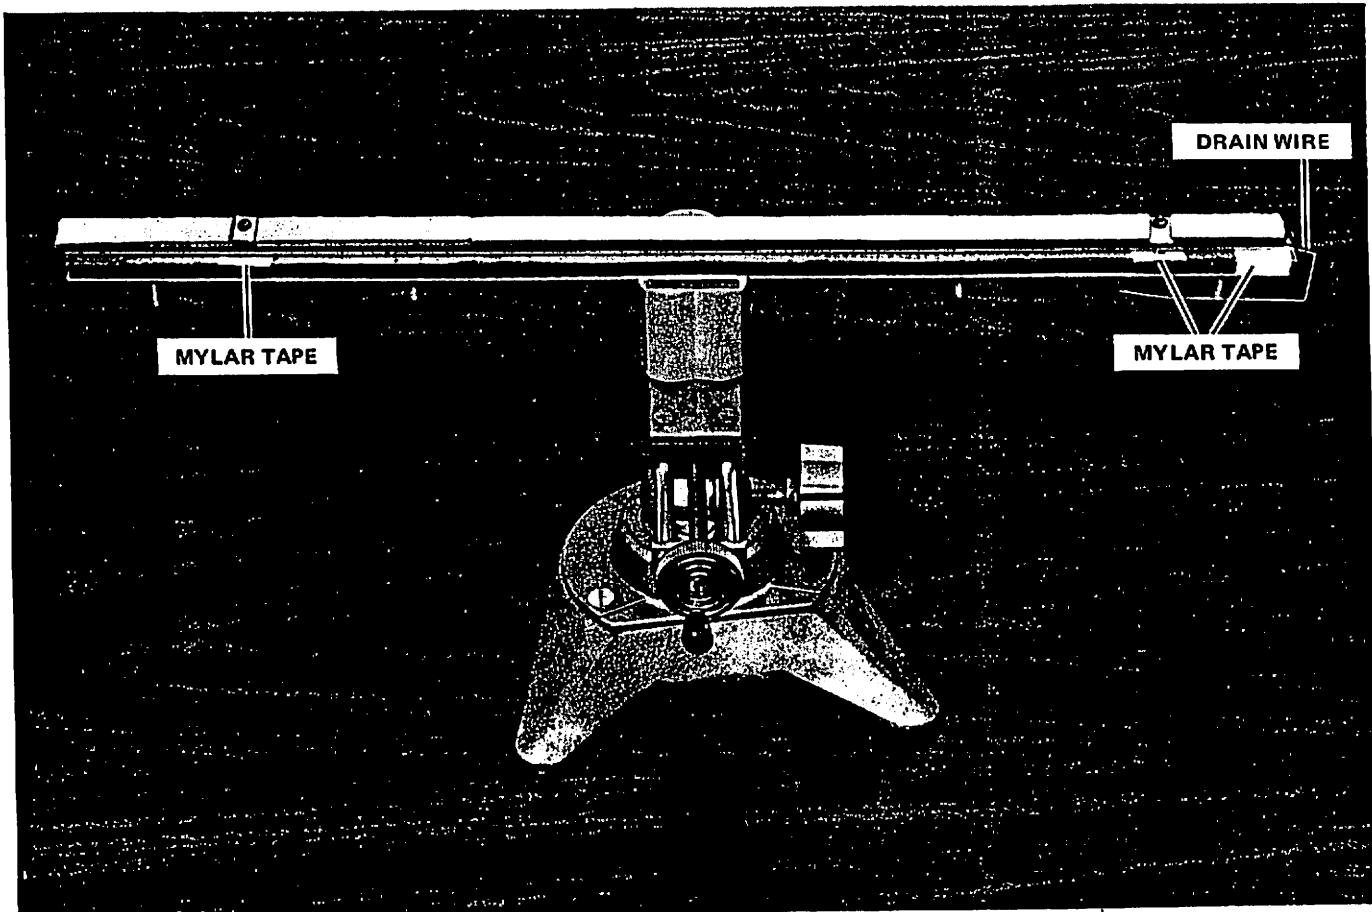

FIGURE 8-6 TOUCH SENSOR BAR REASSEMBLED
8. Add mylar tape insulating pads over the nylon material at the two mounting holes (Figure 8-6).
9. Also wrap the end of the touch sensor bar with mylar tape at the point where the drain wire extends beyond the end of the bar (Figure 8-6) to prevent shorts after connection in the circuit.